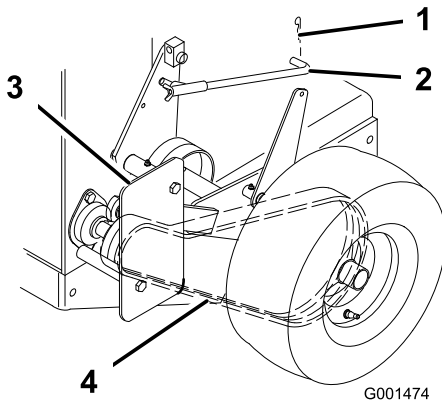

Figure 40
1. Remove the hairpin cotter securing the brake rod to the brake arm to relax the tension on the belt idler (Figure 40).
2. Remove the bottom bolt and loosen the top bolt of the shield to rotate it for belt clearance (Figure 40).
3. Lift the belt past the idler and off the drive pulley (Figure 40).
6. Secure the shield with the previously removed bolt and tighten the bolts (Figure 40).
7. Secure the brake rod to the brake arm with the hairpin cotter (Figure 40).